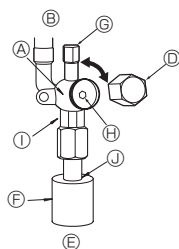

Fig. 4-6
(1) Gas/Liquid side of ZM35-71 (Fig. 4-6)
- ① Remove the cap and turn the valve rod counterclockwise as far as it will go with the use of a 4 mm hexagonal wrench. Stop turning when it hits the stopper.